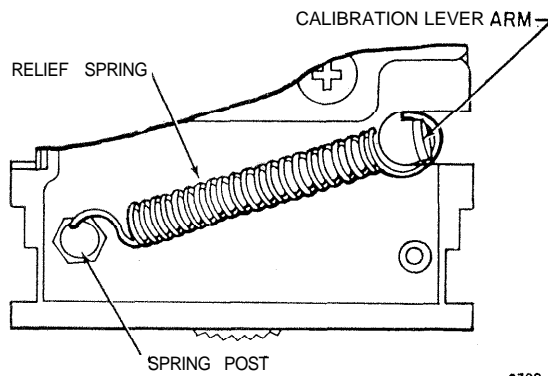

Fig. 8. Back of the Humidistat Showing Relief Spring Connections.
- 2 Disconnect the relief spring (Fig. 8) from the calibration lever arm on the back of the Humidistat.